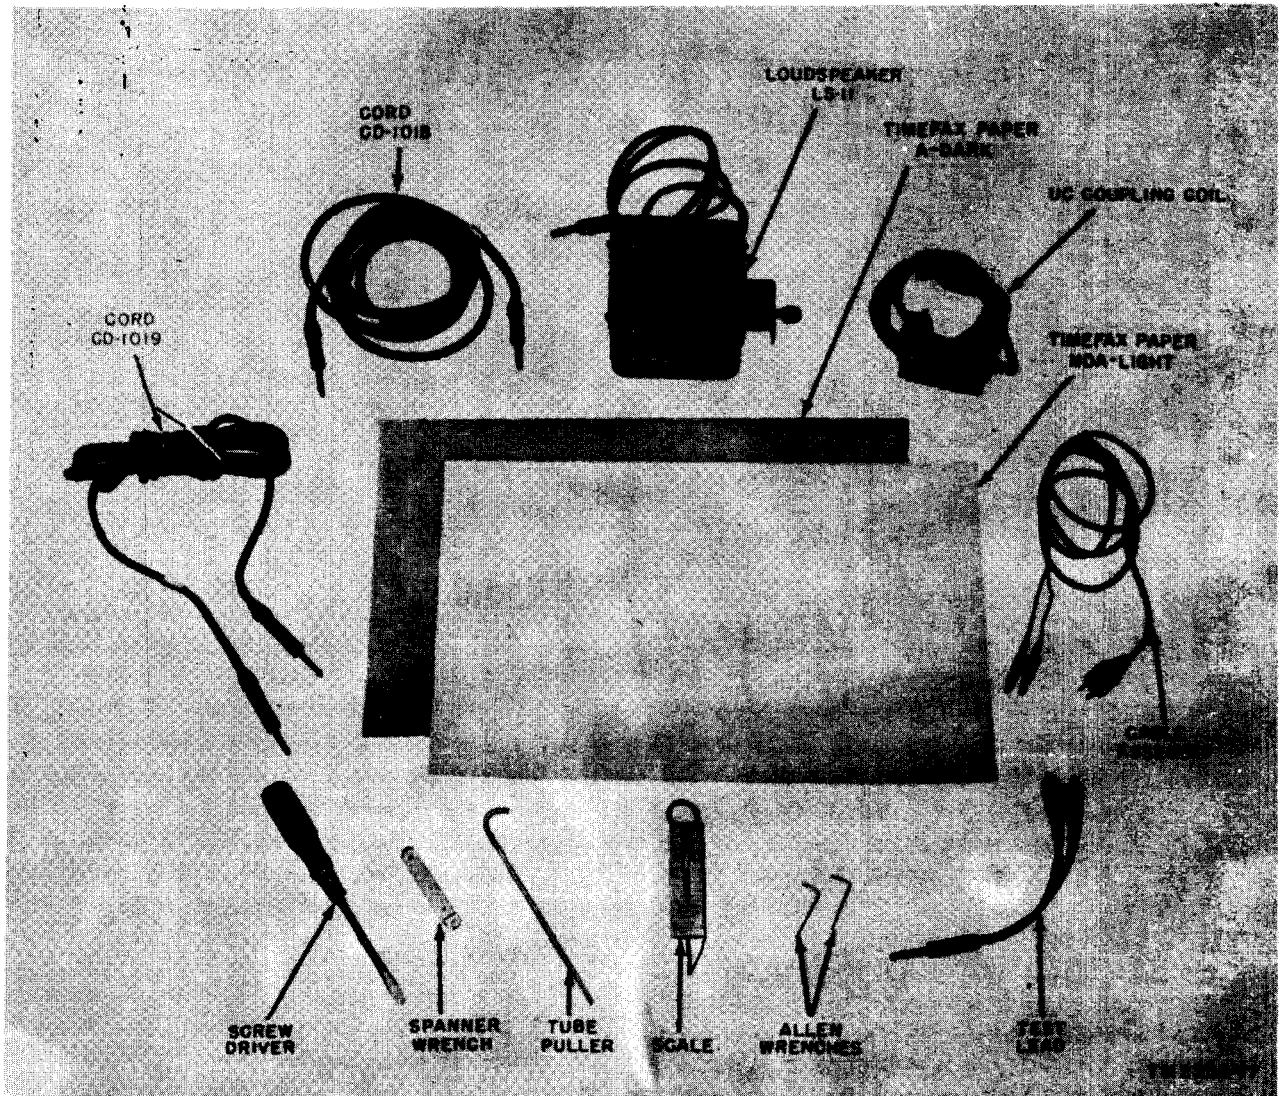
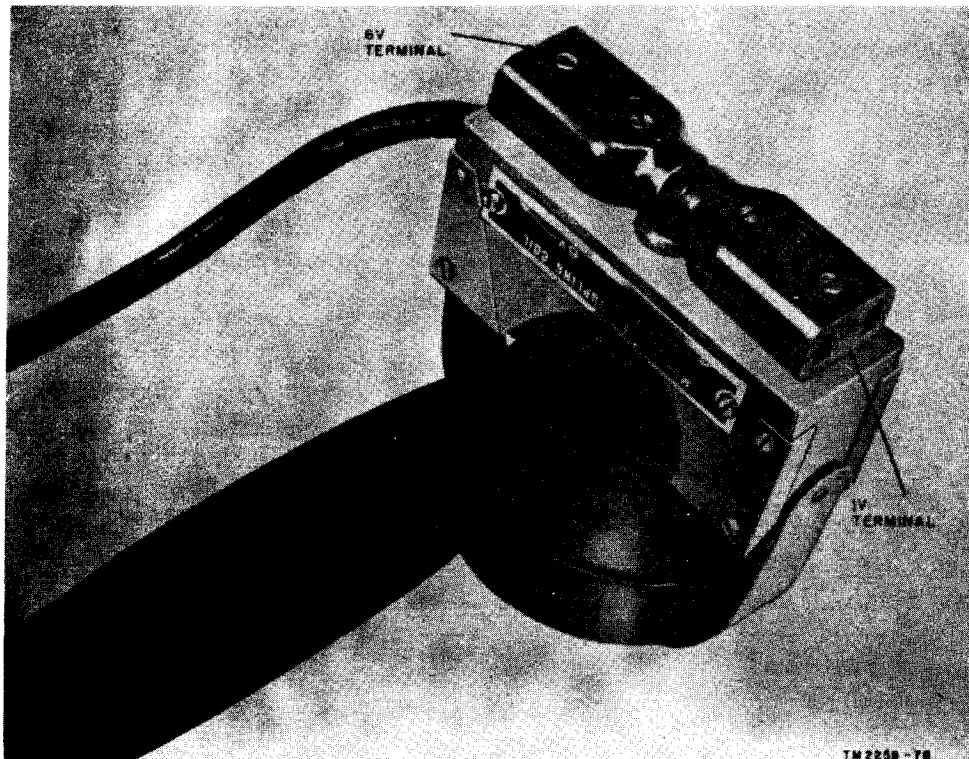

Figure 5. Facsimile set AN/TXC-1\*, accessories.
Figure 6. UC coupling coil.
*e. Cords and Leads.* The following cords and leads (fig. 5) are furnished with Facsimile Set AN/TXC-1(\*):
- (1) Cord CD-1018, a 10-foot, two-conductor, shielded, rubber-jacketed cord, terminated at each end with Plug PL-55. It is used in making input connections to the transceiver.
- (2) Cord CD-1019 an 8-foot, three-conductor, shielded, rubber-jacketed cord, terminated at each end with Plug PL-68. It is used in making output connections from the transceiver.
- (3) A 5½-foot test lead terminated on one end with a two-prong plug that fits the 1V and 6V jacks on the coupling coil (fig. 6), and on the other end with two alligator clips. It is used in making input and output connections to the transceiver when a high-level signal is required for certain types of wire lines.
- (4) A 6-inch test lead a two-conductor cord terminated at one end with PL-55, and at the other end with two alligator clips. It is used in connecting a wire line into the RADIO RCVR jack during reception of high-level signals.
*f. UC Coupling Unit.* This coupling unit (fig. 6) is used to make input and output connections to the transceiver through a telephone receiver, and is supplied with a phosphor-bronze clamp for holding it in place on the telephone handset. The primary impedance is 600 ohms and matches the output of the transceiver. The full 10-ohm secondary provides an open-circuit output of 6 volts; the secondary also has a 2-ohm tap that provides an open-circuit voltage of 1 volt. The secondary terminates in two female type plugs for selection of the desired level. This unit is not used with Facsimile Transceiver TT-1F/TXC-1.
*g. Loudspeaker LS-11* (fig. 5). This loudspeaker is used in the talk-back circuit of Facsimile
*h. Recording Paper* (fig. 5). Two special types of direct recording paper are furnished for use with Facsimile Transceiver TT-1(\*)/TXC-1.
- (1) Teledeltos paper or Timefax NDA is used in direct recording. They are dry papers with dark undercoating and light top coating. The coating is burned off by a spark from the transceiver stylus during the direct recording operation. The paper furnished is 12 inches by  $18\frac{11}{16}$  inches in size. Four packages, each containing 250 sheets of Teledeltos grade H, or Timefax NDA, are furnished. This paper is nonduplicating.
- (2) Timefax A paper is used in the direct recording process when multiple copies